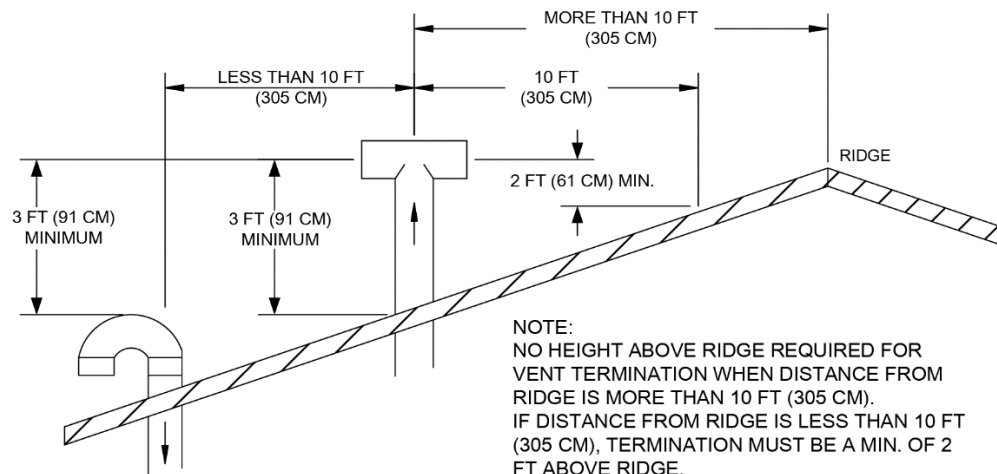

Figure 6: Combustion Air Roof Termination Locations
- a) Combustion air inlet must be 3 ft. below any vent outlet within 10 ft. See Figures 6 and 7.
- b) Combustion air inlet must also face away from the vent outlet. See Figure 6.